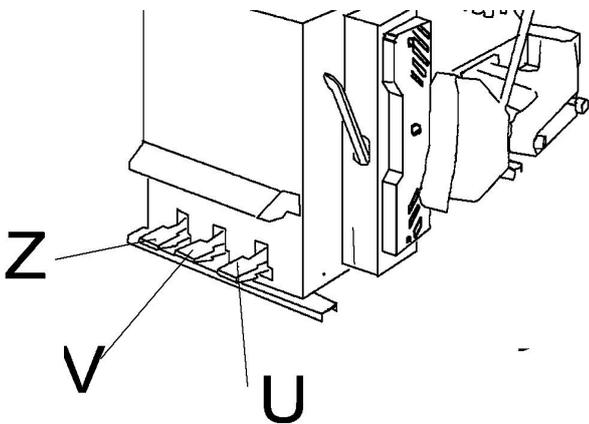
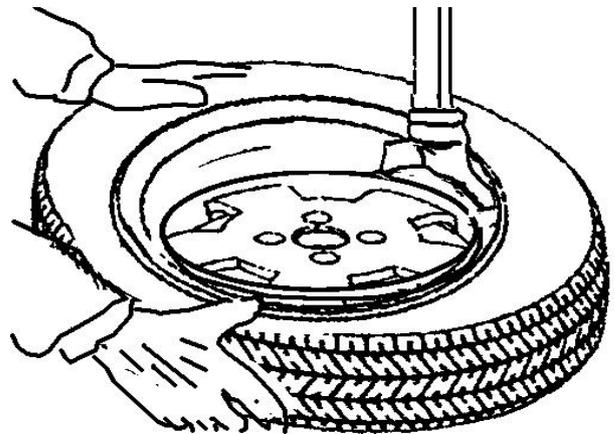

Fig.10
Fig.11
Keep the tire bead pursed down into the wheel rim channel with your hands. Press down on the pedal (Z) to rotate the turntable clockwise(Fig.10). Continue until you have covered the entire circumference of the wheel rim(Fig.11).